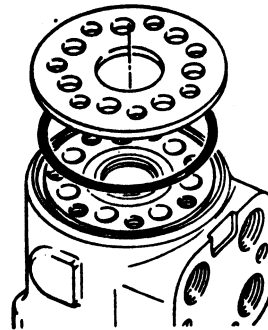

FIGURE 18
16. Install seal in housing, see Fig. 18.